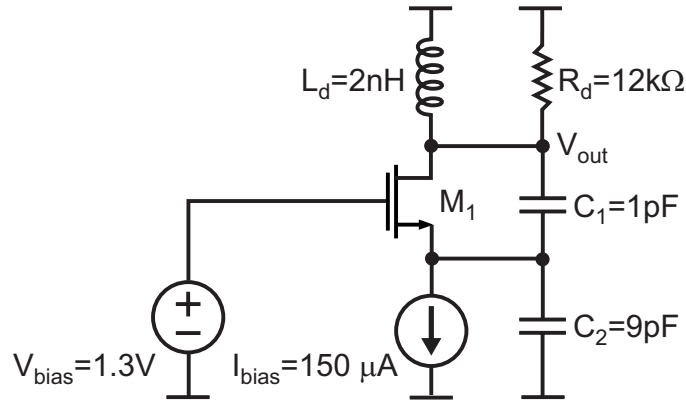

Figure 2: CMOS Colpitts oscillator.
2. The following is based on Problem 2 in Chapter 16 of Thomas Lee's first edition book. Here we examine the Colpitts oscillator shown in Figure 2. Use the 0.18u Spectre model file provided on MIT server in the file /mit/6.776/Models/0.18u/cmos018.scs for your MOS model.